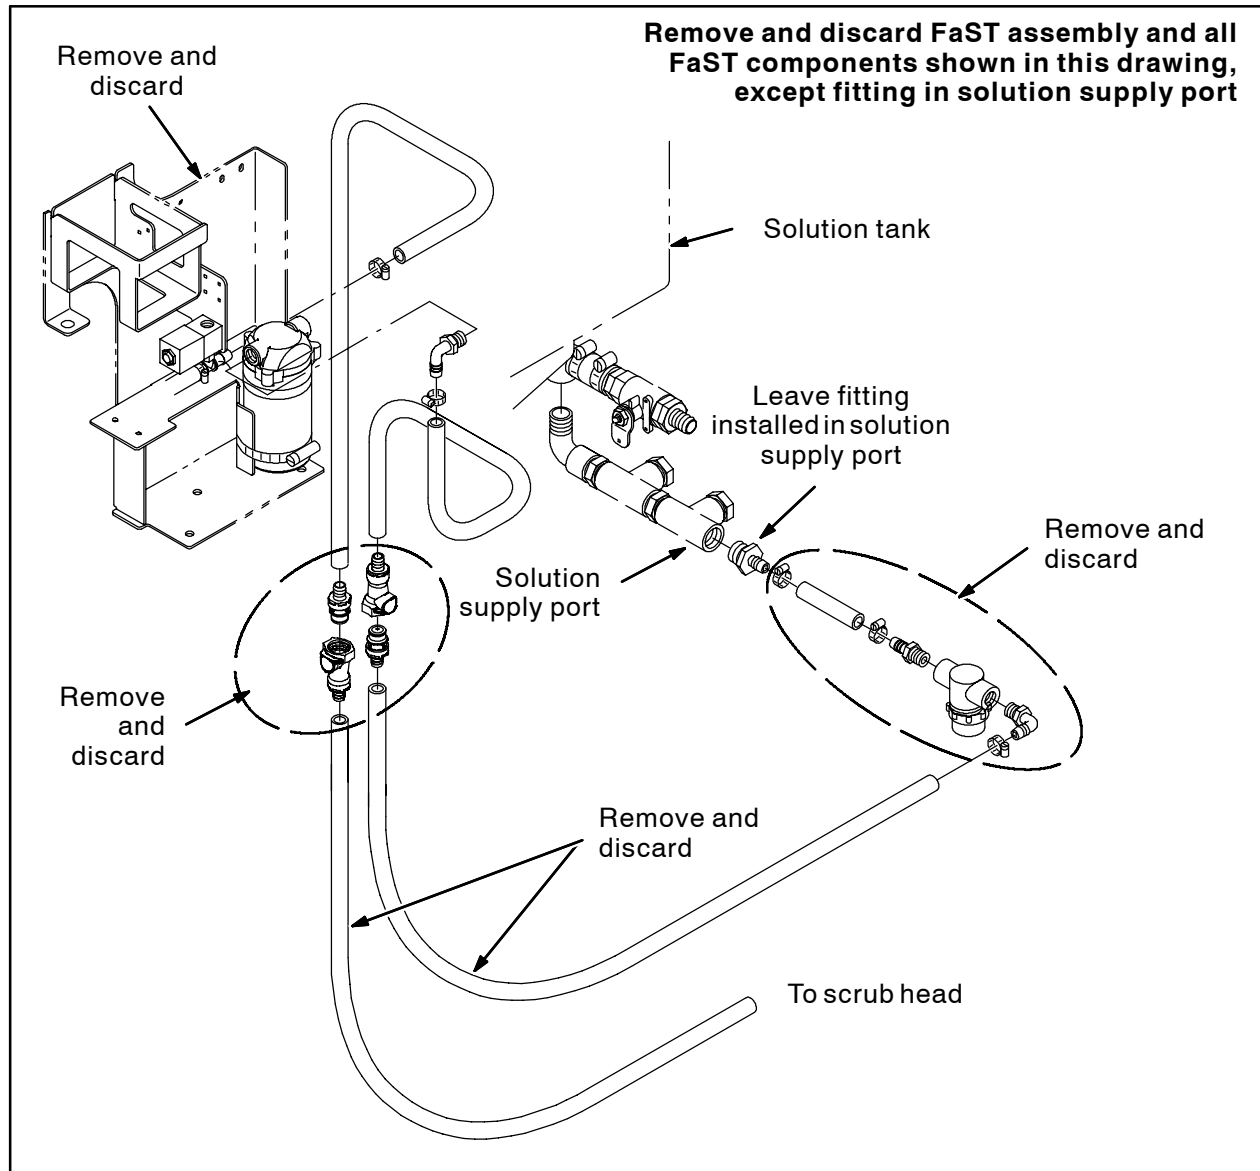
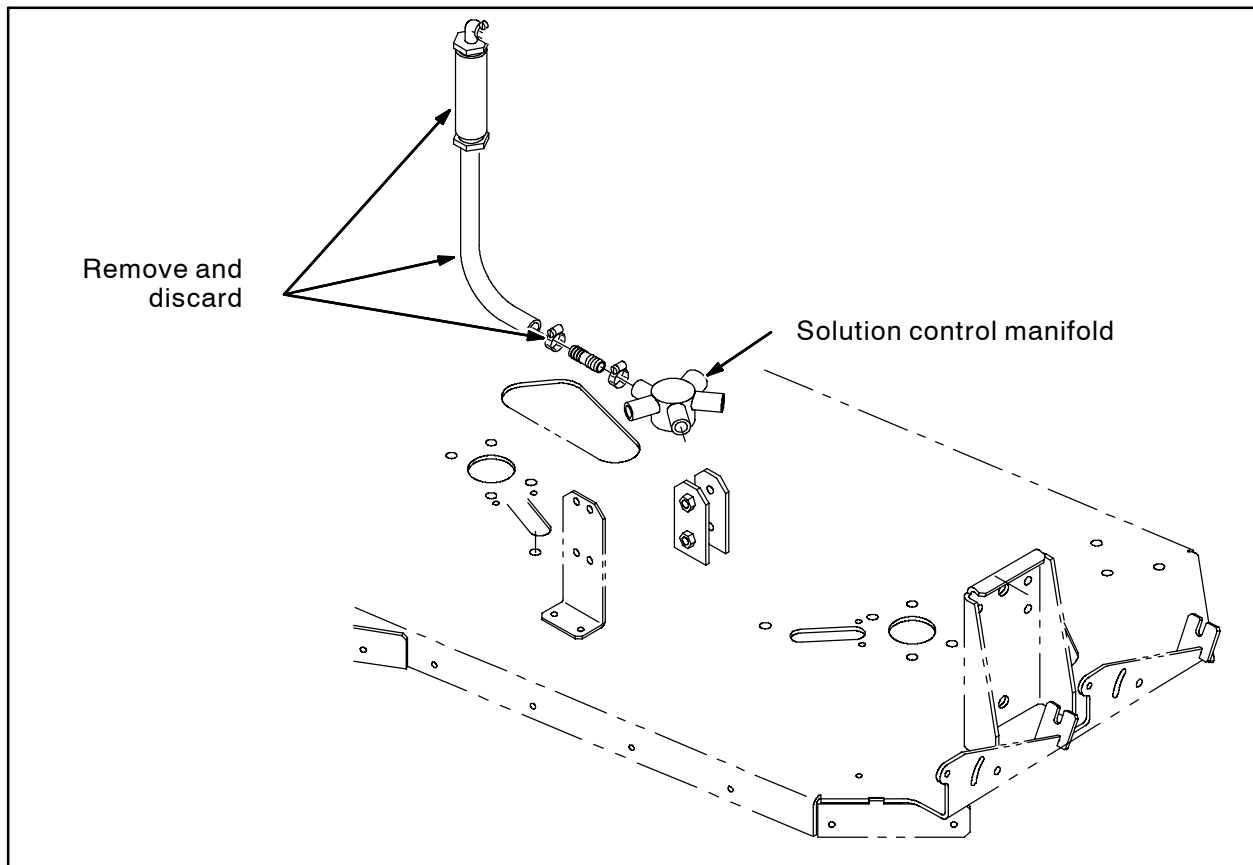

FIG. 1
FIG. 2
37. Use isopropyl alcohol to clean the surfaces where labels will be installed onto the machine. Install the labels onto the machine. Refer to **Fig. 2 - Switch and Label Group** for label locations.
2. Remove the FaST components and hardware labeled in Fig. 1 from the machine. Discard all removed parts.
3. Disconnect the hose with the mixing chamber from the solution control manifold. Discard the hoses, mixing chamber, and hose clamp. Refer to Fig. 1 and Fig. 2.